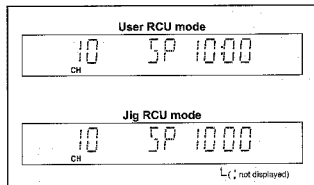

Fig.2-3a User/Jig RCU mode
- (1) Turn on the power.
- (2) Press the following remote keys continuously within 2 seconds "SET UP MENU" → "2" → "8" → "OK". When the VCR is set to the Jig RCU mode, the symbols (" : ") in the time display of the FDP are turned off. (Refer to Fig.2-3a)